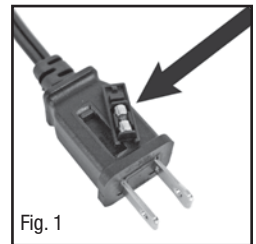
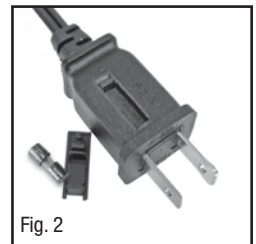

Fig. 1
Fig. 2
2. If your fan loses power and you suspect that the fuse on your fan has blown, you should first remove the spare fuse holder attached to the cord plug (Fig. 1). Remove the spare fuse from the plastic spare fuse holder, and set the spare fuse aside (Fig. 2).
- Fit bottom of Metal Fan Pole (A) into circular recess in fan base (Fig.2).
- Align 3 screw holes at the base of Metal Fan Pole (A) with the 3 holes at the base.
- Secure the Metal Fan Pole to the base by inserting and tightening the 3 screws in the 3 holes on the bottom of the base (Fig. 2).